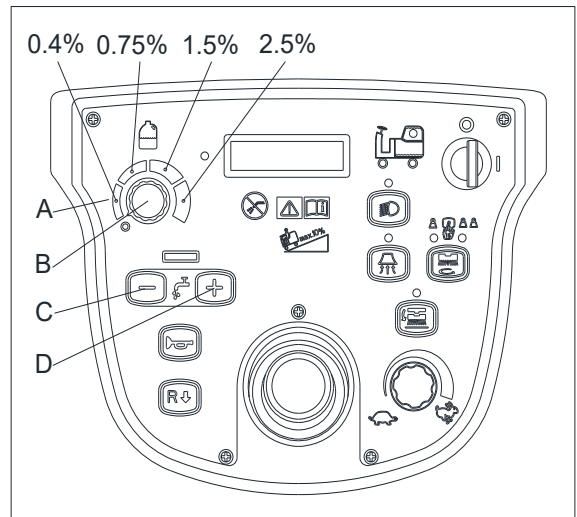

Figure 14
With the same detergent amount, solution concentration can be changed by adjusting water flow through water flow adjusting buttons (C, D, Figure 14).
1. Twist the rotary knob (B, Figure 14) by clockwise or anti-clockwise to increase or reduce the detergent amount. Turn the rotary knob anti-clockwise to the end to stop using detergent.
2. There are four level detergent amount indicated by four colors as shown on the control panel (A, Figure 14)